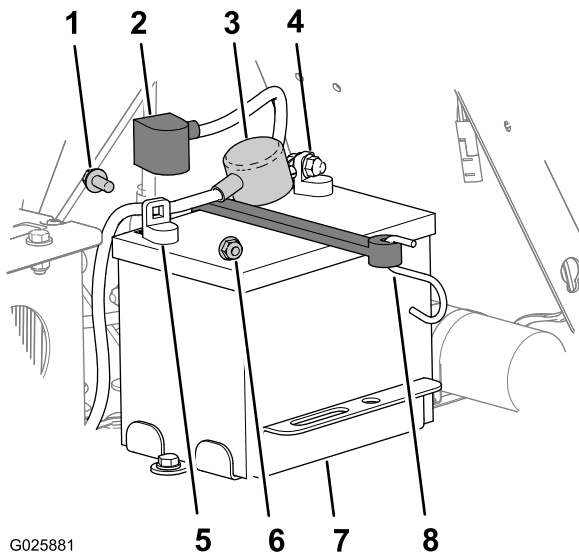

Figure 49
3. On the battery, lift the black terminal cover from the negative cable (Figure 49).
4. Disconnect the negative battery cable from the negative (-) battery terminal, and remove the cable from the battery (Figure 49).
5. Slide the red terminal cover off the positive battery terminal (Figure 49).
6. Disconnect the positive (red) battery cable, and remove the cable from the battery (Figure 49).
7. Remove the hook of the battery strap from the battery tray (Figure 49), and remove the battery.
1. Place the battery onto the machine (Figure 49).
3. Install the positive (red) battery cable to positive (+) battery terminal with a flanged bolt and flanged nut (Figure 49).
5. Install the negative battery cable and the ground wire to the negative (-) battery terminal with a flanged bolt and flanged nut (Figure 49).